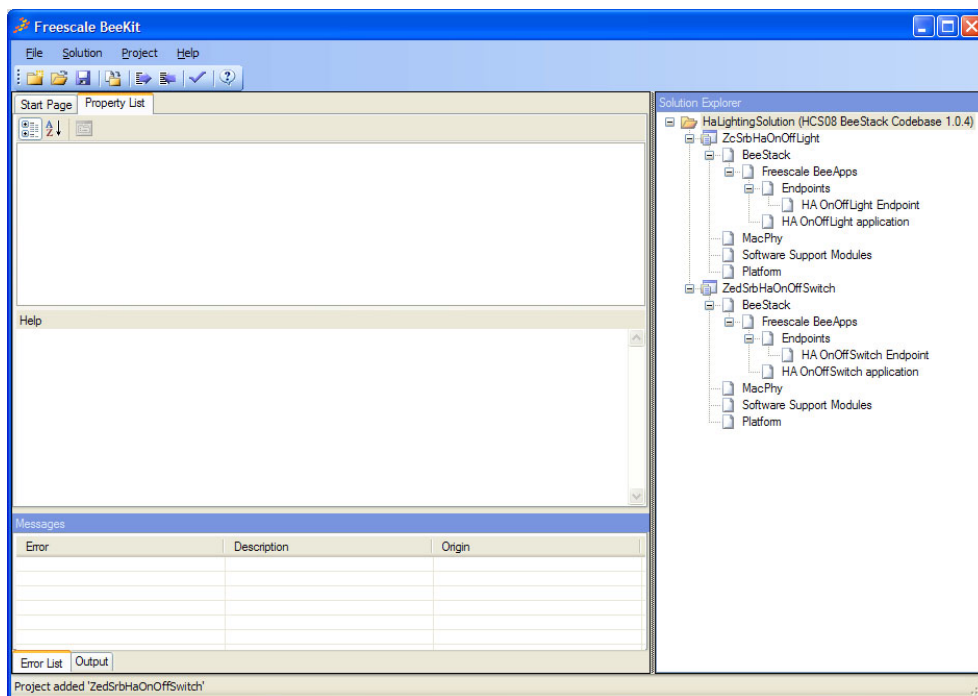

Figure 3-11. BeeKit Main Window
5. After selecting Finish for the switch application, the BeeKit main window appears as shown in Figure 3-11.